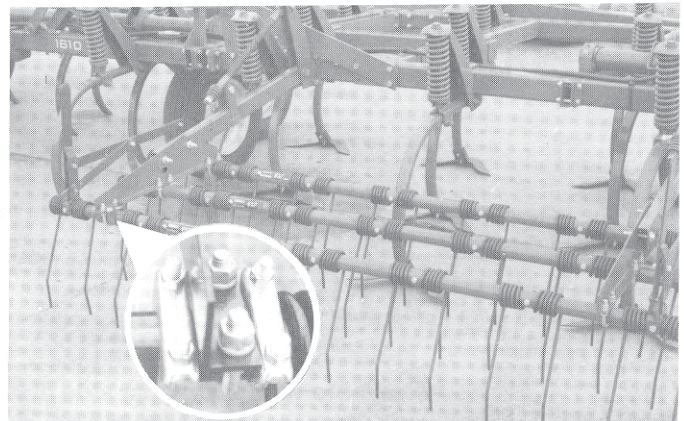

Fig. 4.
- 4c. Attach pipe clamps on one end of rear bar. Attach one of each side of side plate (see inset Fig. 4).